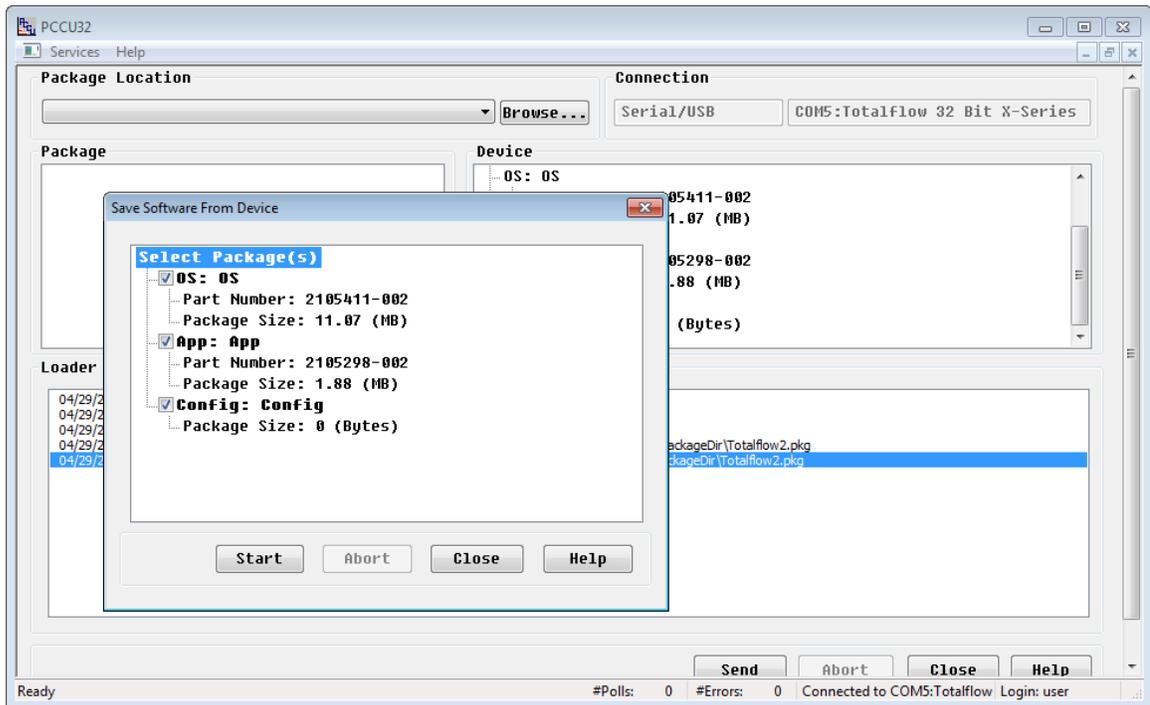

Figure 67: Device software selection
7. Ensure that all selections are checked to back up all of the device software, called a super-package (Figure 67). This full backup should include the OS, applications, configurations, and calibration data (if an onsite calibration has been performed).